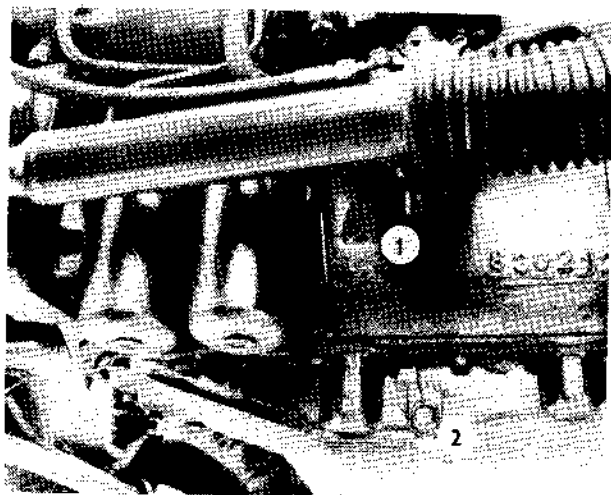

Fig. 7
6. Engine oil check gauge (Fig. 7/1).
7. Engine oil drain plug (Fig. 7/2).